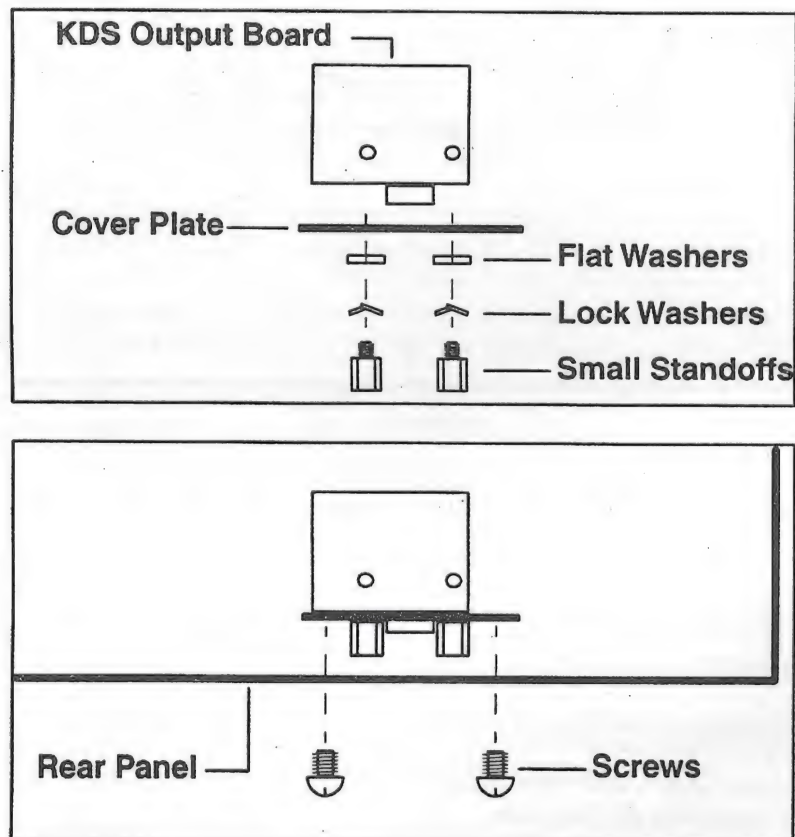

Figure 14. KDS Output Board Installation-K2500/X Keyboard.
19. If this is a keyboard unit, see Figure 14. Attach one of the Cover Plates to the KDS Output Board, using the following items: